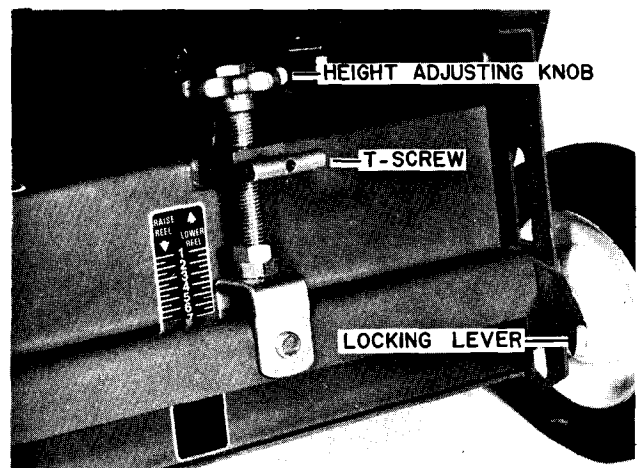

Figure 7
Depth Adjustments — Ren-O-Thin III & IV (Fig. 7)
7. Under most conditions the locking levers can be left at the top of the slots. In cases where extremely smooth or level turf is being raked, you may want to lower the locking levers and secure the axle. (Fig. 7) Axle must be locked in position if up-milling.